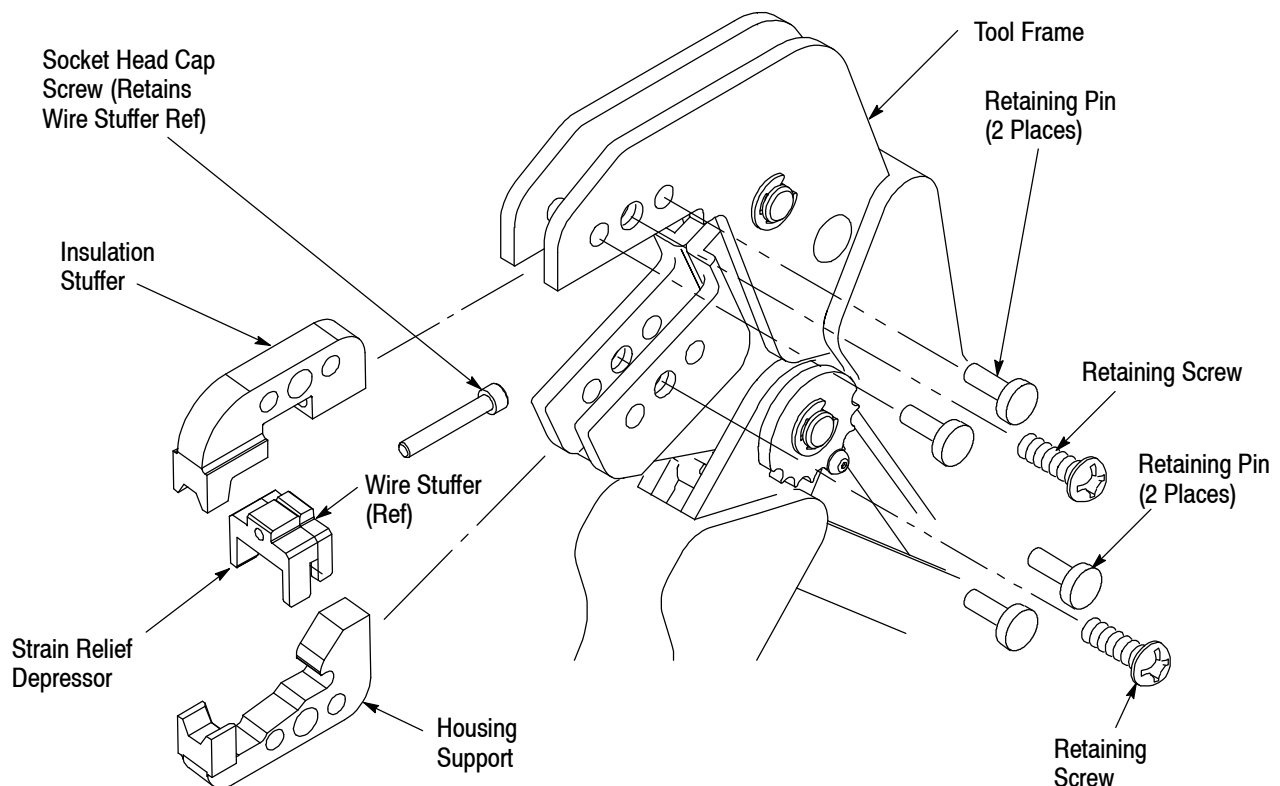

Figure 2
2. Orient the insulation stuffer as shown in Figure 2, and insert it into the stationary jaw of the tool frame. Align the holes with the associated pins and short retaining screw into the holes in the tool frame. Tighten the screw.
3. Orient the housing support as shown in Figure 2, and insert it into the stationary jaw of the tool frame. Align the holes with the associated holes in the tool frame. Insert the short retaining pins and short retaining screw into the holes in the tool frame. Tighten the screw.
1. Install the wire stuffer onto the insulation stuffer using the 4-40 UNC x .621 in. socket head cap screw included with the die assembly. Refer to Figure 2.